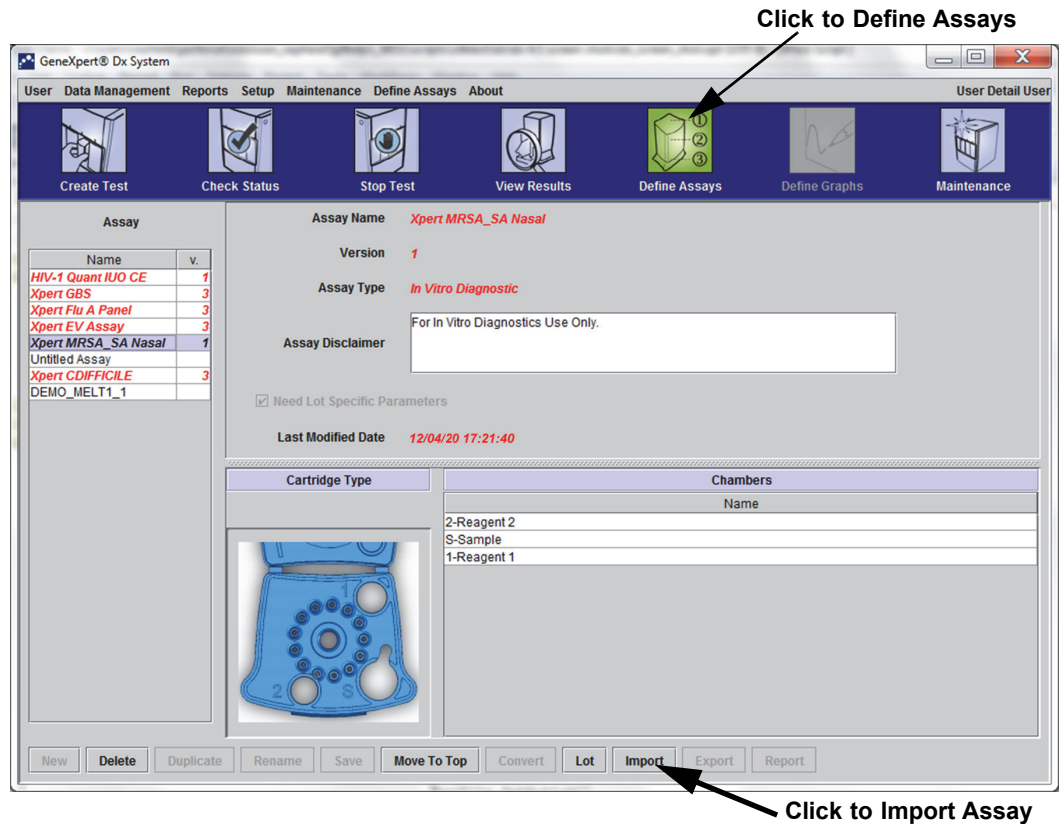
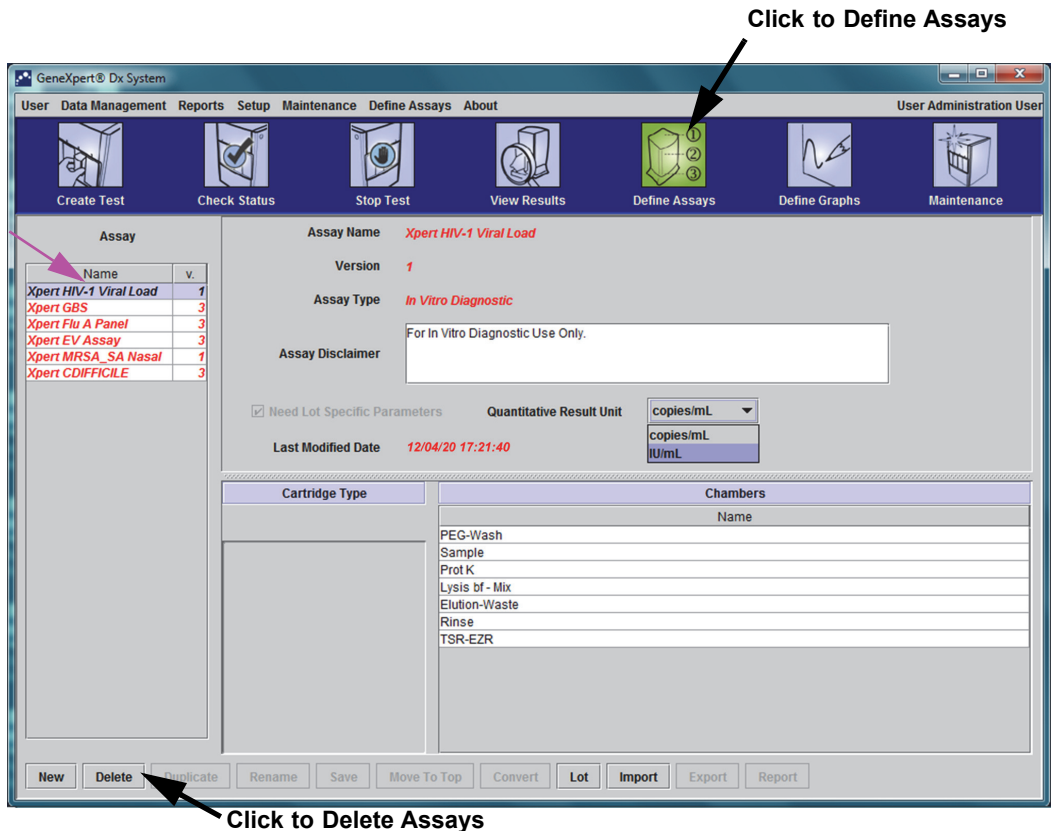

Figure 2-50. System—Define Assays Window (Detail User View)
Figure 2-52. GeneXpert Dx System—Define Assays Window (Administrator User View)
1. In the GeneXpert Dx System window, click **Define Assays** on the menu bar. The Define Assays window appears. Figure 2-52 shows the Define Assay window for the GeneXpert system administrator. The window for Detail and Basic users has fewer functions (see Figure 2-50).
4. Navigate to the GeneXpert Systems folder. Locate and select the assay definition (.gxa/.nxa) file, and then click **Import**. The new assay name and version number appear in the Assay list (on the left side of the window) and details about the assay appear to the right of the list. See Figure 2-50.
After importing a quantitative assay, the Quantitative Result Unit can be changed. See Figure 2-52.
1. To delete an assay definition file, in the Define Assays window (see Figure 2-52), select the assay name in the Assay list (on the left side of the window), and then click **Delete**. A confirmation message appears.